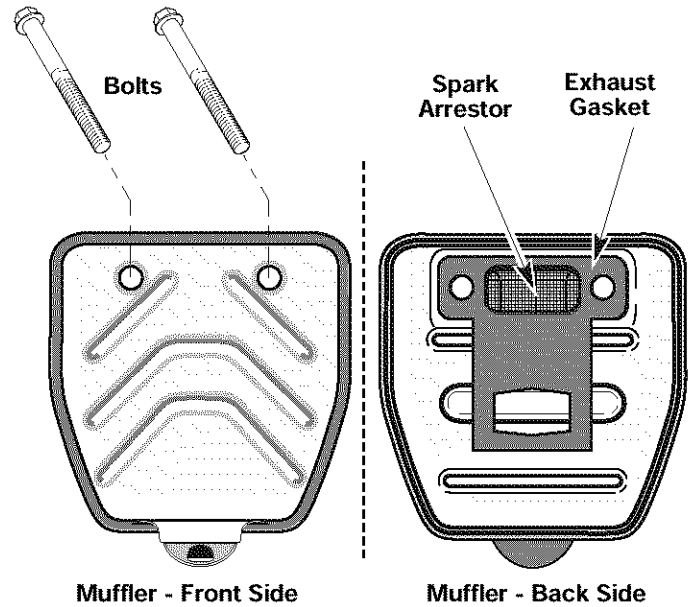

Fig. 28
2. Locate the muffler front and the two (2) bolts securing it to the engine. (Fig. 28). Remove the two (2) bolts using a flatblade screwdriver or 5/16-inch socket or nut driver. Pull the muffler off of the engine.
3. Turn the muffler over to the back side and locate the exhaust gasket. Remove the muffler gasket from the muffler (Fig. 28).
7. Place the exhaust gasket against the muffler's back side. Align the exhaust gasket bolt holes with the bolt holes in the muffler. While holding the exhaust gasket in place, insert bolts into muffler's front side (Fig. 28).